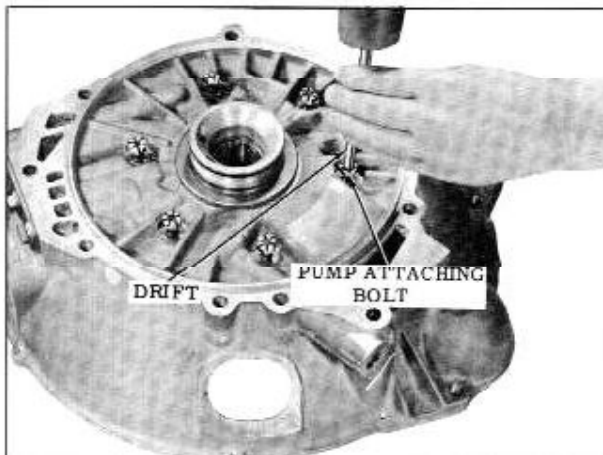

Fig. 3-77 Removing Pump
2. Carefully, tap on the bolt heads to free the pump and "O" ring seal from the case cover assembly. (Fig. 3-77)